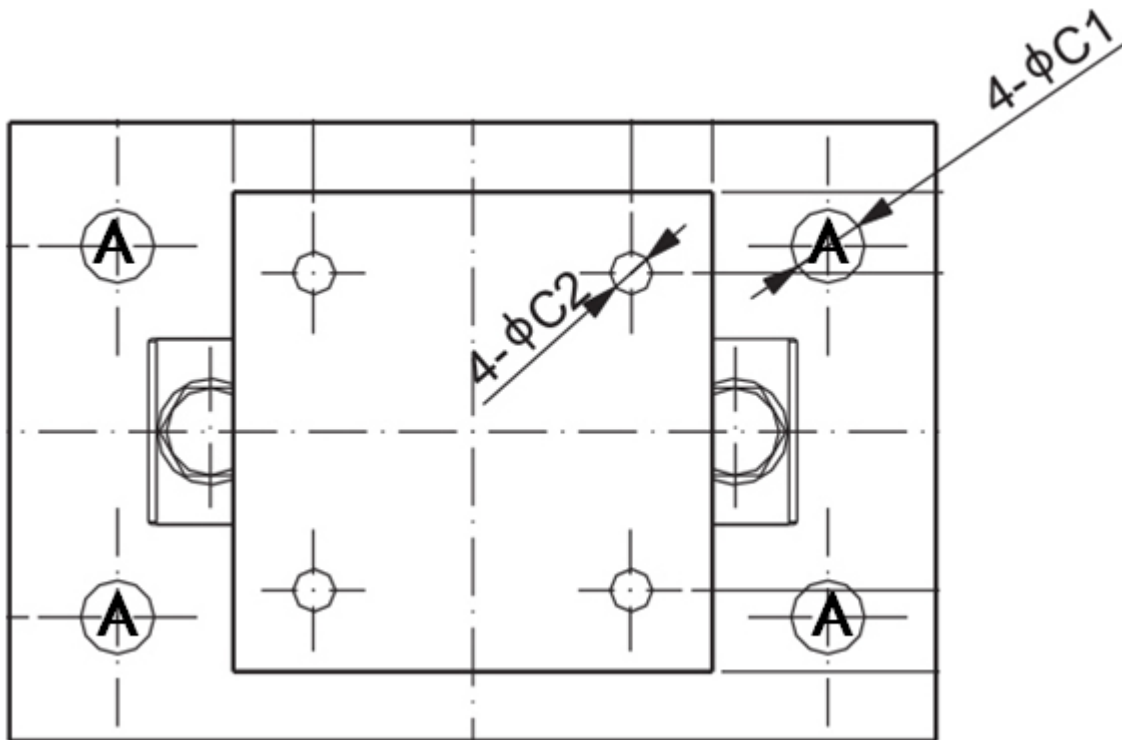

Figure 18: RSLC-25 Plate Dimensions
1. Figure 18 illustrates the RSLC-25 plate. Drill four holes into the concrete base as indicated (A).